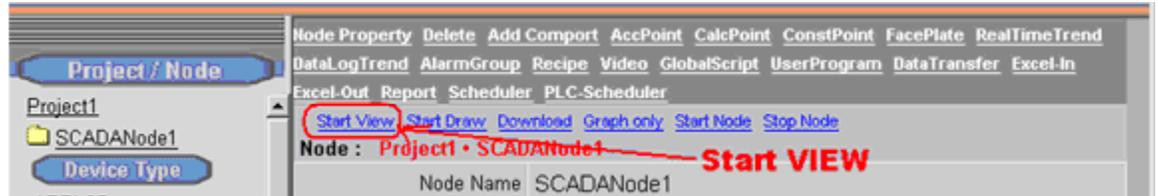

Figure 4.37- Start VIEW from Project Manger
8. Select **Start View** (Figure 4-37).